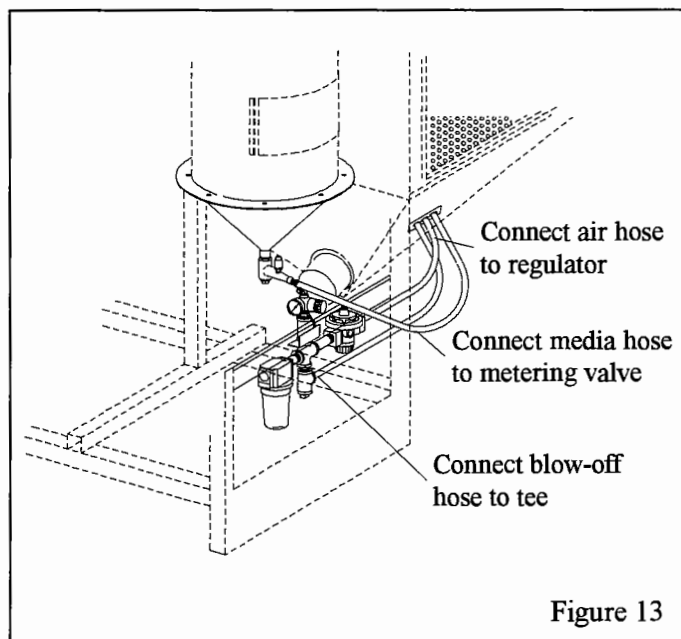

Figure 13
4.6 Refer to Figure 13 and connect hoses as follows: